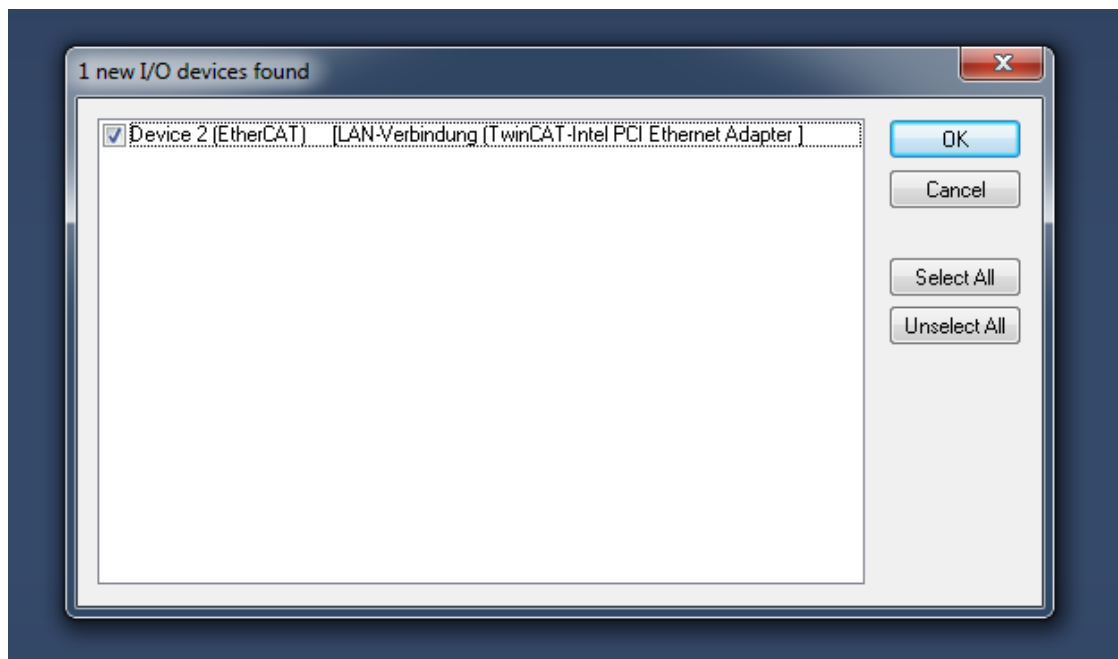

Figure 6.3: TwinCAT - IO devices
- Choose your TwinCAT-enabled network card (see Figure 6.3)